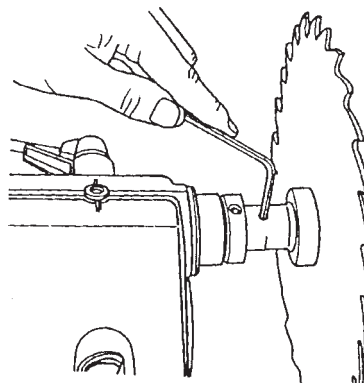
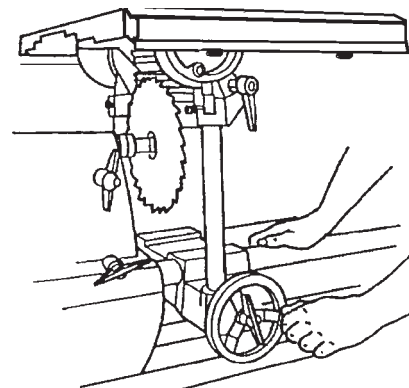

Figure B-60
Figure B-61
- 20. Mount the saw blade on the spindle and align the arbor set screw with the spindle knob's set screw, then use a 5/32" Allen wrench to tighten the arbor set screw, as seen in Figure B-60.
- 21. Reinstall the table insert (138) in the worktable.
- 23. Loosen the carriage lock and slide the carriage so the saw blade is directly beneath the slot in the table insert. See Figure B-61.